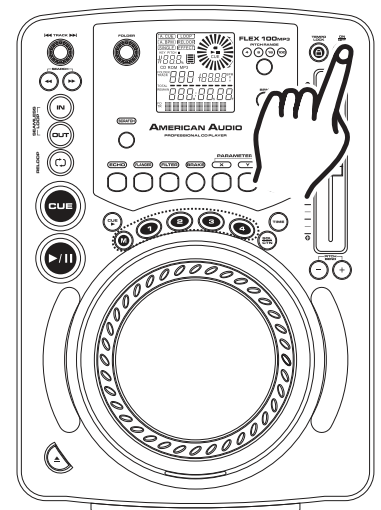
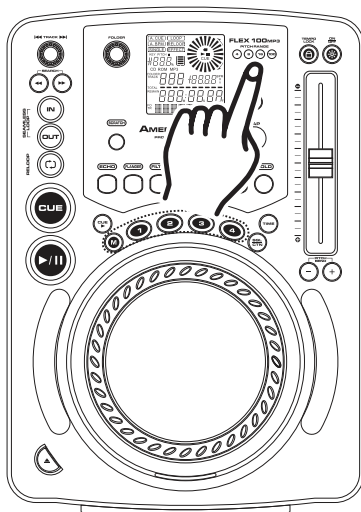

Figure 28
Figure 30
**Adjusting the PITCH SLIDER'S RANGE (1):** You may change the PITCH SLIDER'S (7) operating range at any time. To change the operating range be sure the pitch function is turned on, see figure 28. The pitch percentage can be changed between +/-4%, +/-8%, +/-16%, and +/- 100%. 4% will allow the least amount of pitch manipulation and 100% will allow the most amount of pitch manipulation. To adjust the different ranges, press the PITCH ON/OFF BUTTON (3) and tap on the PITCH RANGE BUTTON (1) until your desired value is reached, see figure 30.